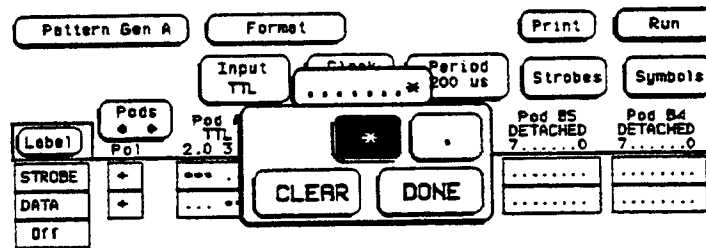

Figure 3-6. Data Channel Select
- g. Select data output channel 0 as shown in figure 3-6. Touch Done.